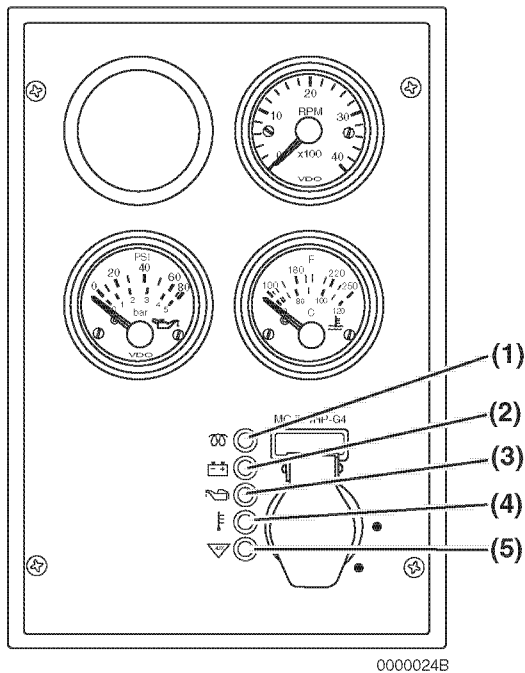
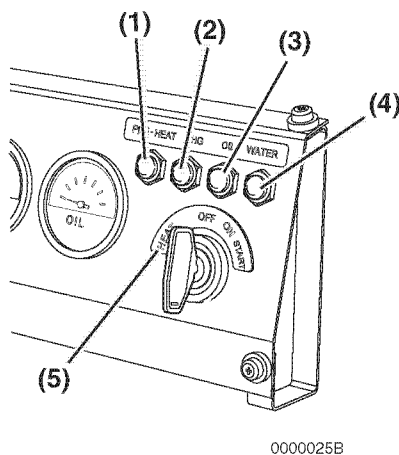

Figure 9
Figure 10
HEAT indicator (Figure 9, (1)) - The pre-heat function is automatically activated when the key switch is turned to the ON position. The indicator flashes for several seconds (4 sec. for IDI models with glow plugs, 15 sec. for DI models with glow plugs or air heater) and when it goes out you can turn the key switch to START.
HEAT indicator (Figure 10, (1)) - Note that on this type of panel you must turn the key to the HEAT position (Figure 10, (5)) to activate the inlet air heater or glow plugs. The indicator will flash for several seconds (4 sec. for IDI models with glow plugs, 15 sec. for DI models with glow plugs or air heater) when you turn the key to HEAT and when it goes out, you can turn the key switch to START.
Battery Charge (Figure 9, (2)) or (Figure 10, (2)) - This indicator will come on if there is a problem in the charging system. This indicator does not indicate if the battery is discharged. See *Troubleshooting Chart on page 113*.
Engine Oil Pressure (Figure 9, (3)) or (Figure 10, (3)) - This indicator will come on if the engine oil pressure is below or exceeds normal limits. See *Troubleshooting Chart on page 113*.
Engine Coolant Temperature (Figure 9, (4)) or (Figure 10, (4)) - This indicator will come on if the engine coolant temperature exceeds normal limits. See *Troubleshooting Chart on page 113*.
Auxiliary (Figure 9, (5)) - Used for special applications.